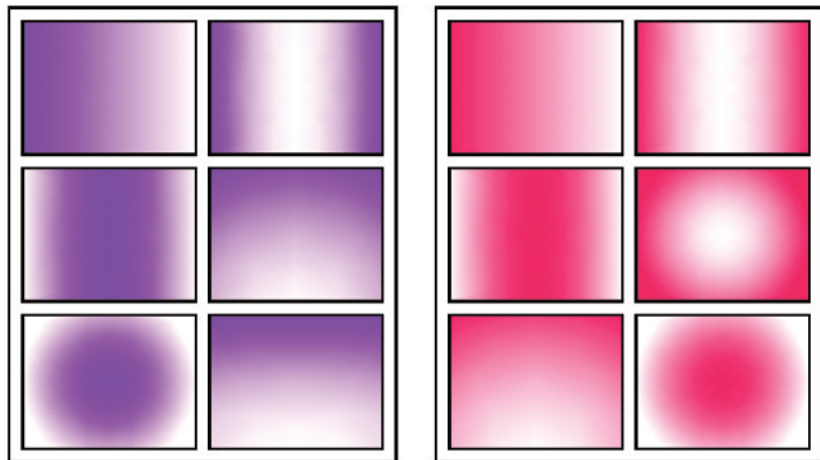

Fig. 8.9 Fourth example – **Colour Gradient** hatching
Fourth example – Colour gradient hatching (Fig. 8.9)
1. Construct two outlines each consisting of six rectangles (Fig. 8.9).
The result is shown in Fig. 8.9.